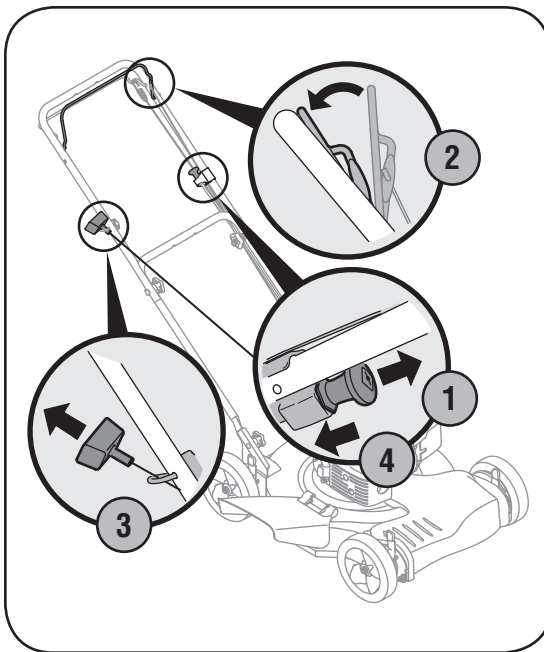

Figure 2
1. Pull out the choke knob located on the left side of the upper handle. See Figure 2.
3. Pull the starter grip lightly until resistance is felt, then pull rapidly to overcome compression, prevent kickback and start engine. Repeat if necessary. See Figure 2.
4. When engine warms up, push in the choke knob. See Figure 2.